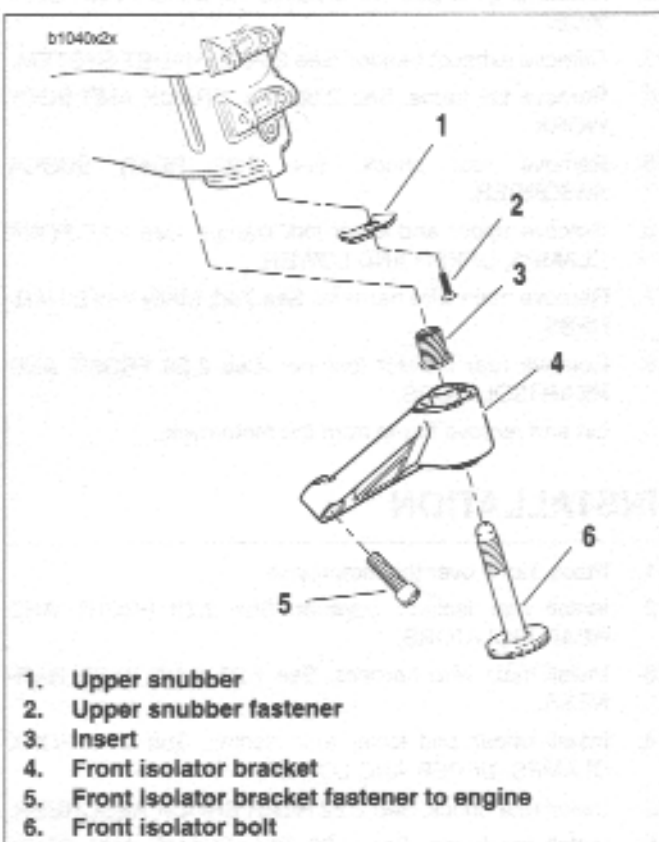

Figure 2-80. Front Isolator
3. See Figure 2-80. Remove front isolator bolt (6).
4. Remove front isolator mount fasteners (5).
5. Remove front isolator bracket (4).
6. Remove upper snubber fastener (2) and remove upper snubber (1).
1. See Figure 2-80. Install upper snubber (1) tightening snubber fastener (2) to 12-36 in-lbs (1-4 Nm).
3. See Figure 2-80. Use LOCTITE 272 on front isolator bracket (4) and install. Tightening fastener (5) to 49-51 ft-lbs (66-69 Nm).
See Figure 2-80. If the threaded insert (3) is damaged and needs to be replaced, install new insert with LOCTITE 272 and tighten to 49-51 Ft-Lbs (66.4-69.1 Nm).